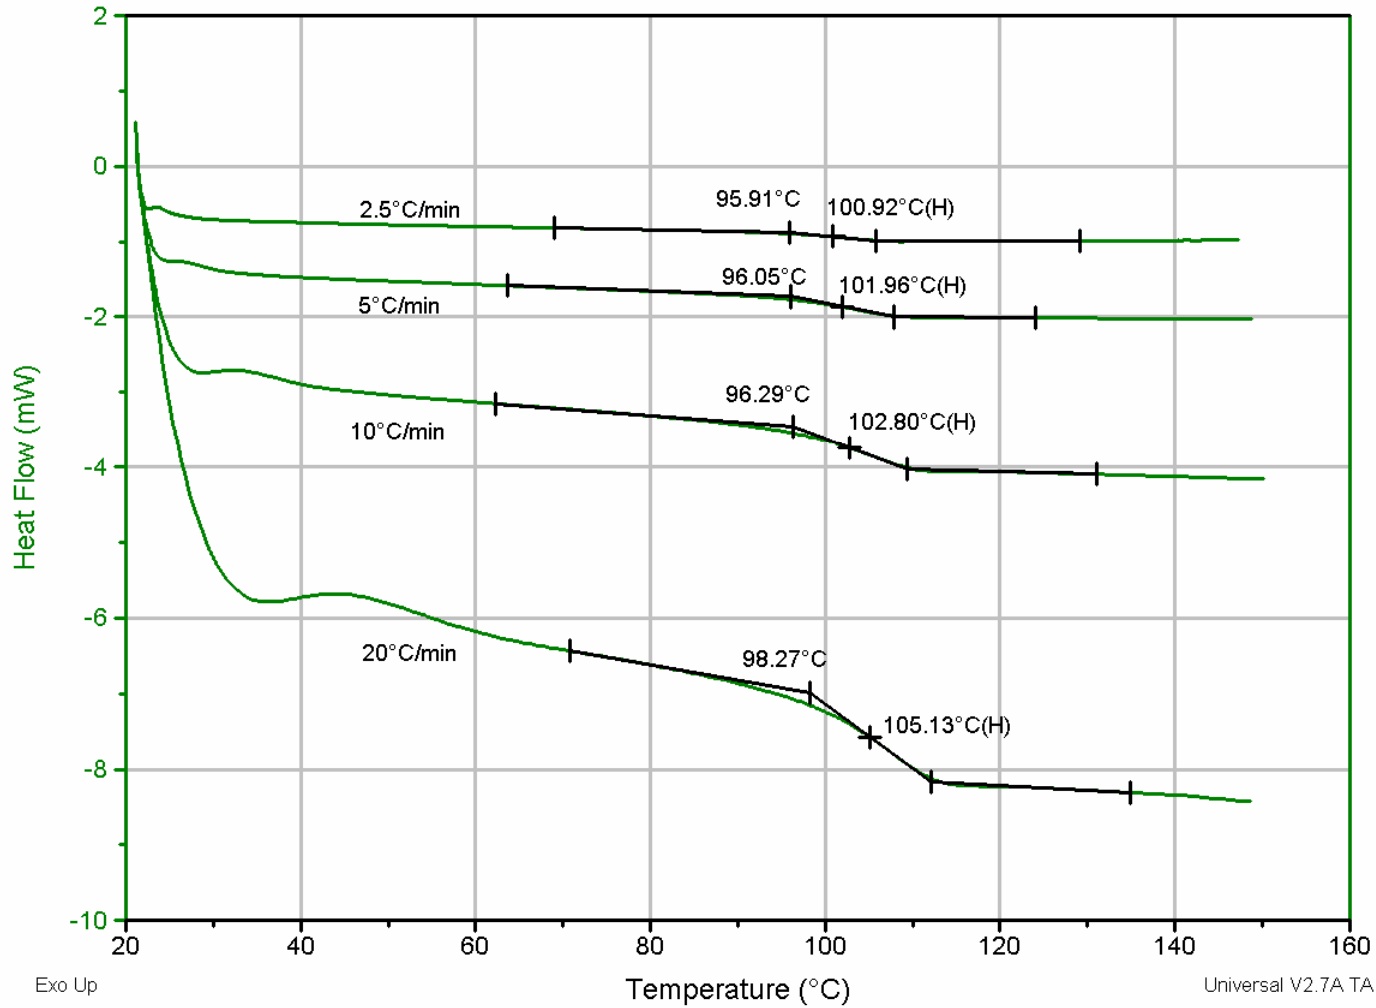

Figure 7
- Although increased sample size or heating rate improves sensitivity, they decrease resolution by causing a larger temperature gradient within the sample (see Figure 7 and Table 1).